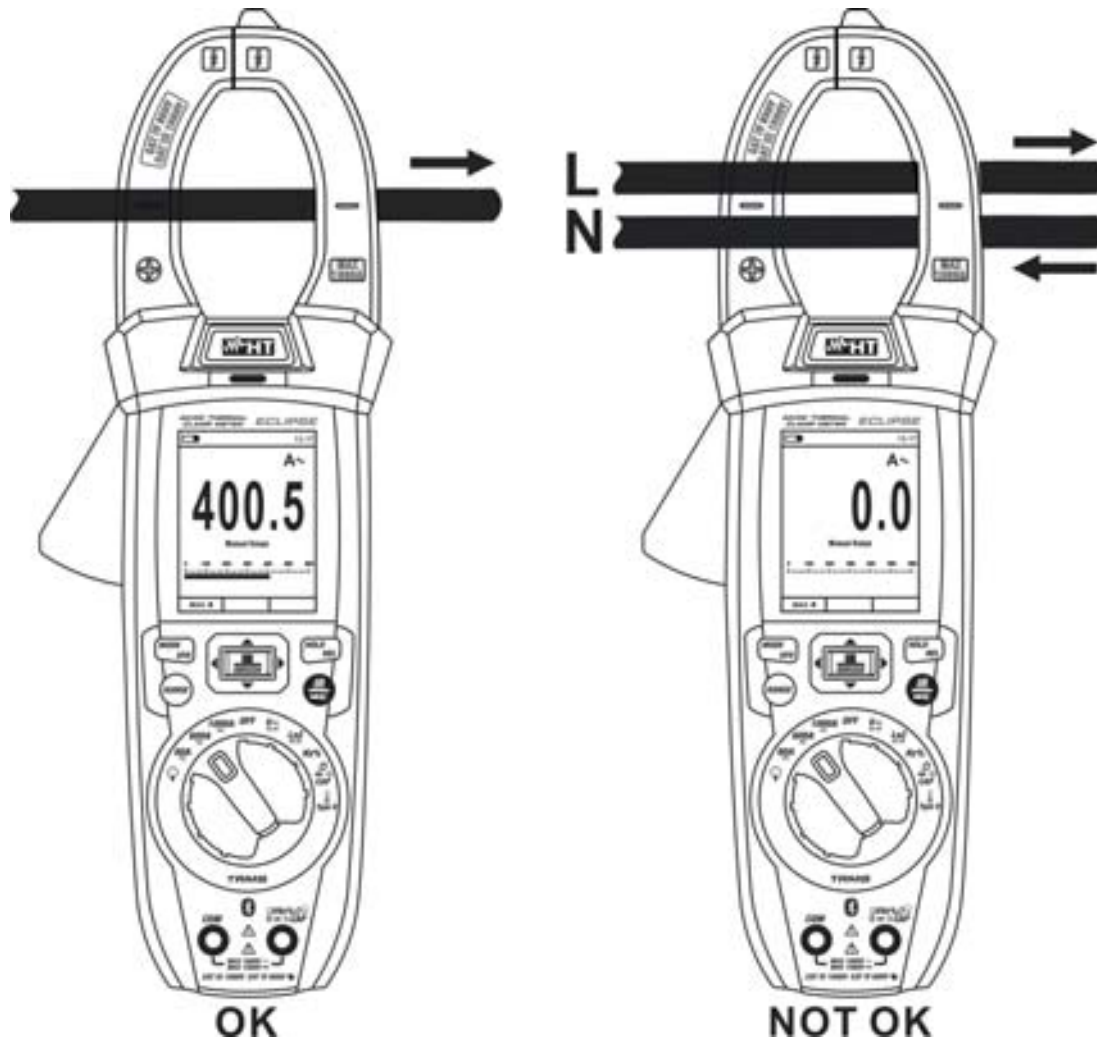

Fig. 32: Use of the instrument for AC current measurement
3. Put the conductor to be tested inside to the center of clamp jaw (see Fig. 32) in order to perform accurated measurements. Consider the notches on jaws as reference (see Fig. 3)